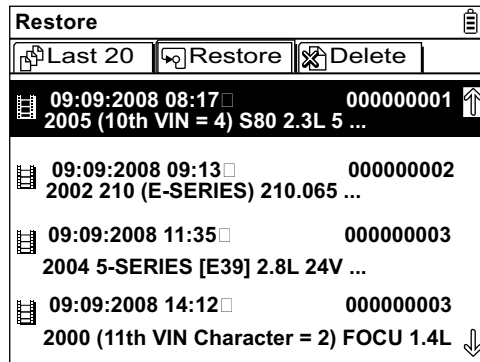

Figure 5-5 Sample Restore Data list
2. Select **Restore Data**, or **Delete Data** to open a list of saved files (Figure 5-5).